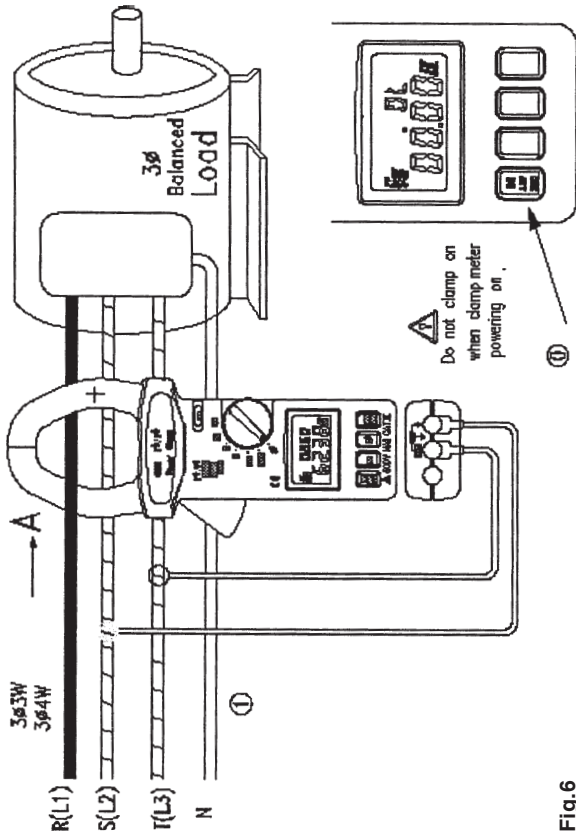

Fig.6
- b. Set the rotary switch at 3f (refer to figure 6).